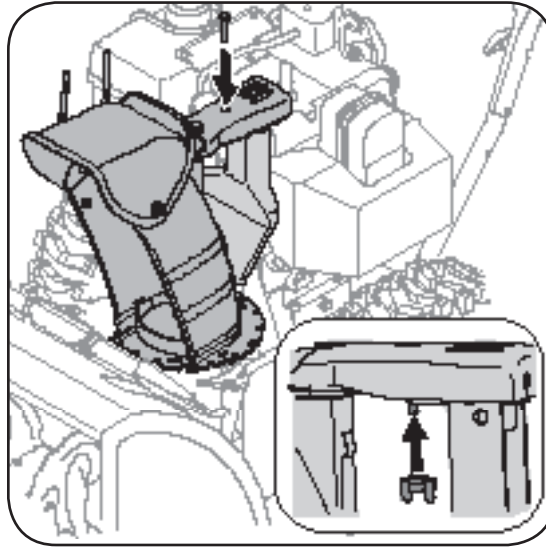

Figure 5
7. Finish securing chute control assembly to chute support bracket with wing nut and hex screw removed earlier. See Figure 5.